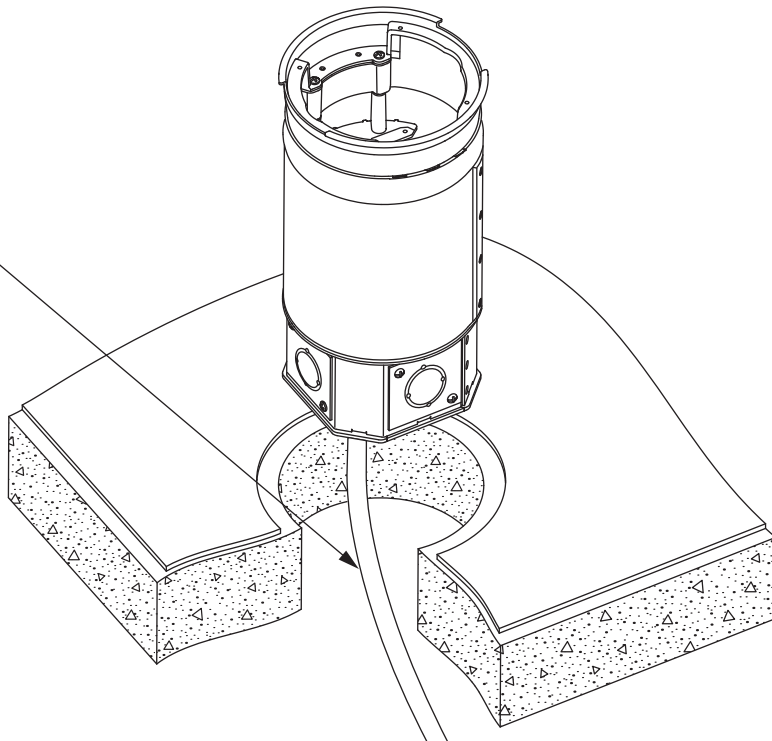

FIGURE 15
- 6.2 **IMPORTANT:** If flexible conduit is used, electrical connections can be made before inserting Poke-Through into hole. Flexible conduit **MUST** be connected to bottom of Junction Box (See Figure 15).